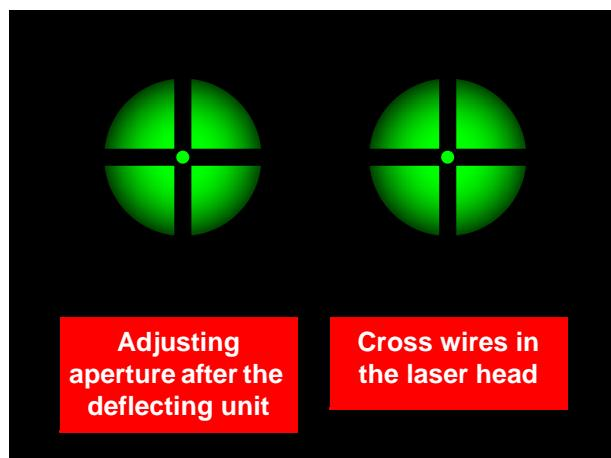

Figure 6.18 Beam adjustment OK
23. If no more deviations in the image can be determined, the adjustment is okay (see Figure 6.18).